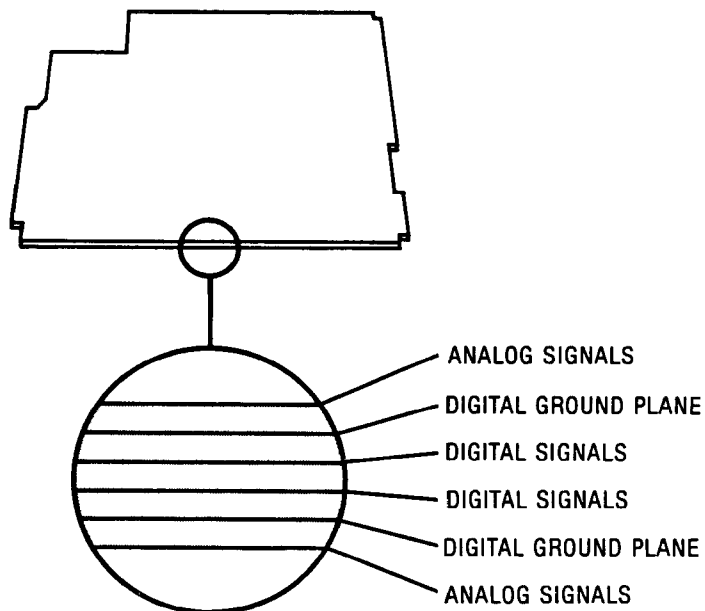

Figure E-1. A62 Motherboard Cross Section
- **GND PLANE** — Refer to Figure E-1.
As shown in Figure E-1, analog and digital trace layers are separated by ground plane layers. These layers were designed to disperse any digital noise into the ground planes and act as an electrostatic shield between the digital and analog signal traces. The ground planes extend to each edge of the motherboard and are connected to STAR GND. This provides isolation between analog and digital grounds while reducing signal crosstalk.